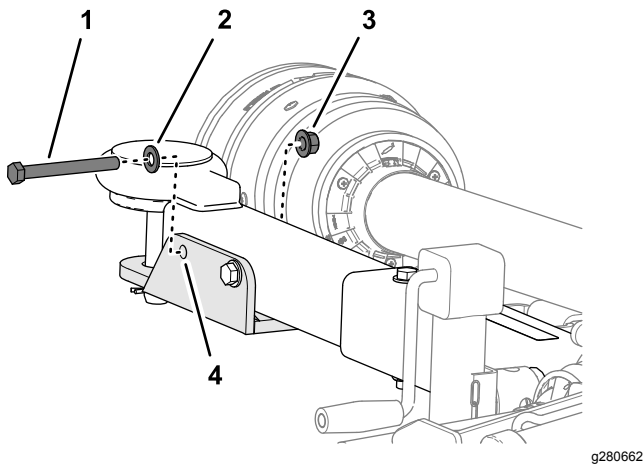

Figure 1
- Remove the flange locknut (1/2 inch), washer (1/2 inch), and capscrew (1/2 x 4-1/2 inches) that secures the clevis to the hitch tube as shown in Figure 1.